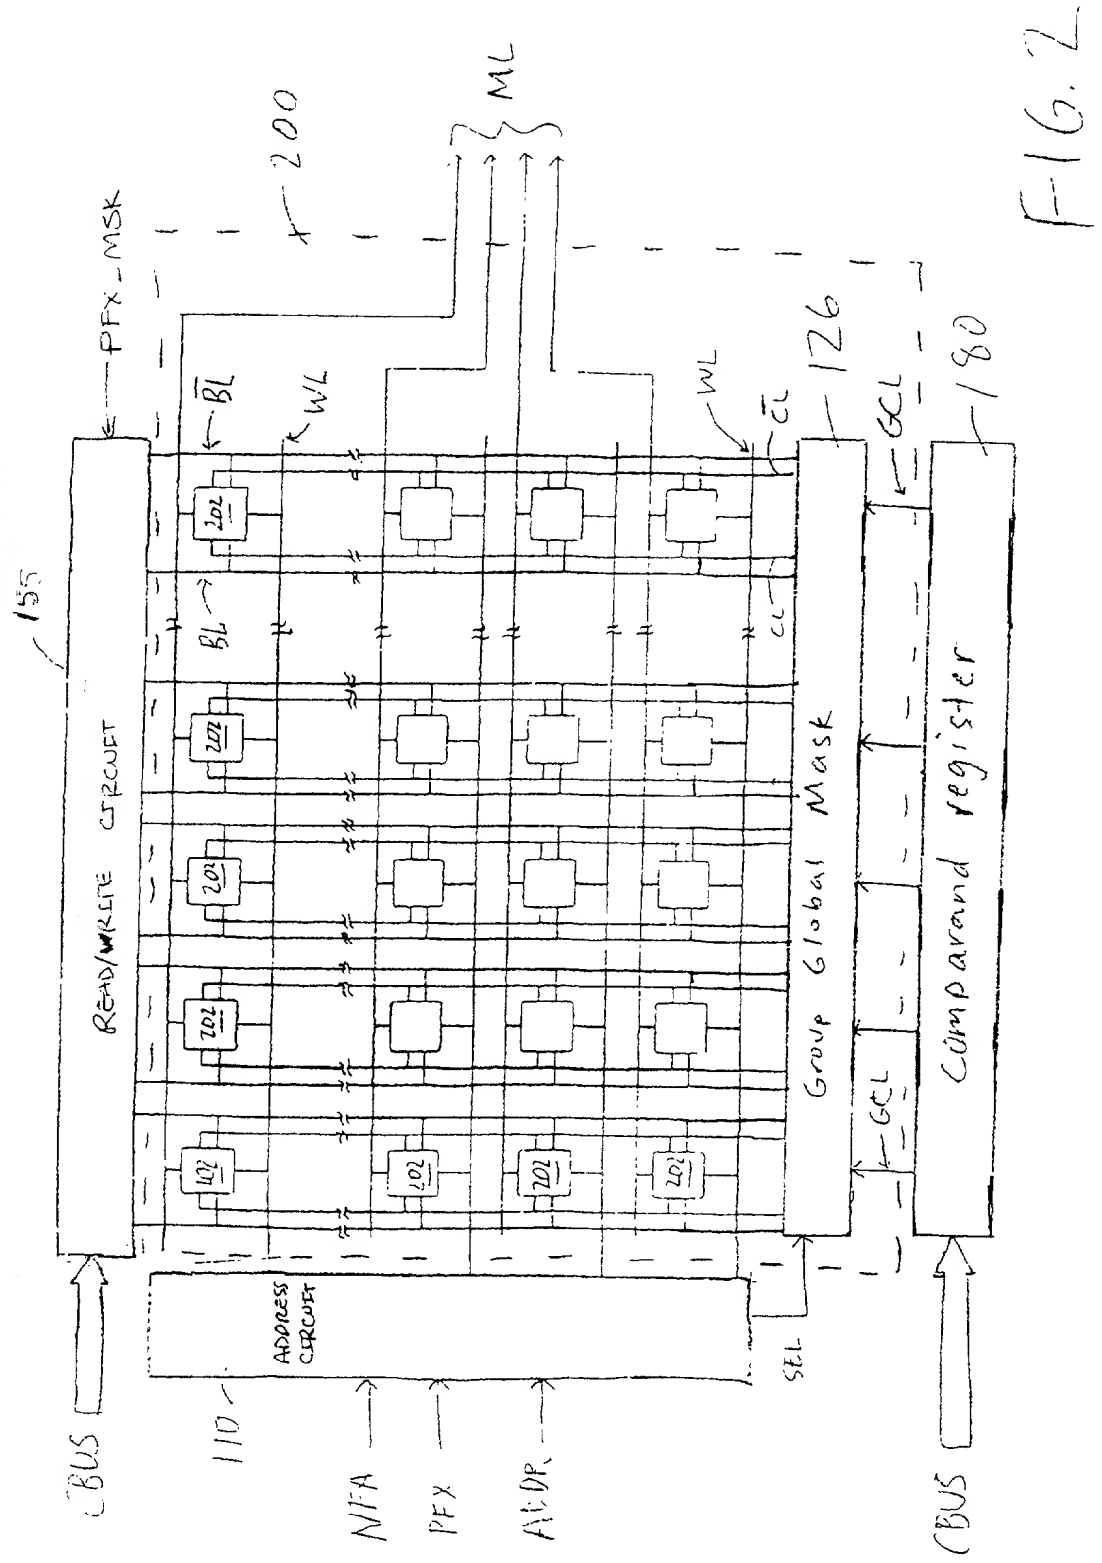

FIG. 16.2
FIG. 16.2 is a schematic diagram of a memory array structure in accordance with the present invention. The array is organized into rows and columns. Each row is connected to a word line (WL) and each column is connected to a bit line (BL). The array is controlled by a read/write circuit (155) and an address circuit (110). The read/write circuit is connected to the bit lines and the address circuit is connected to the word lines. The array is also connected to a group global mask (126) and a comparand register (180). The array is controlled by a bus (BUS) and a mask (MASK).